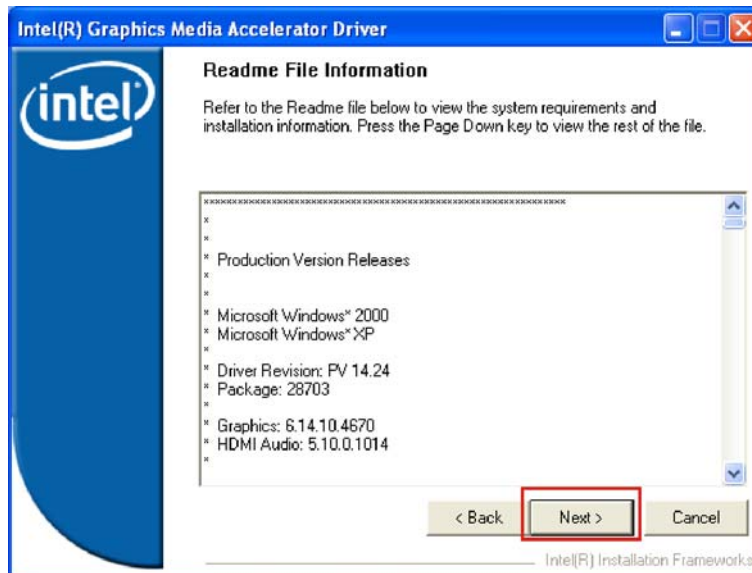

Figure 7-15: VGA Driver Read Me File
Step 13: The Readme file in Figure 7-15 appears.